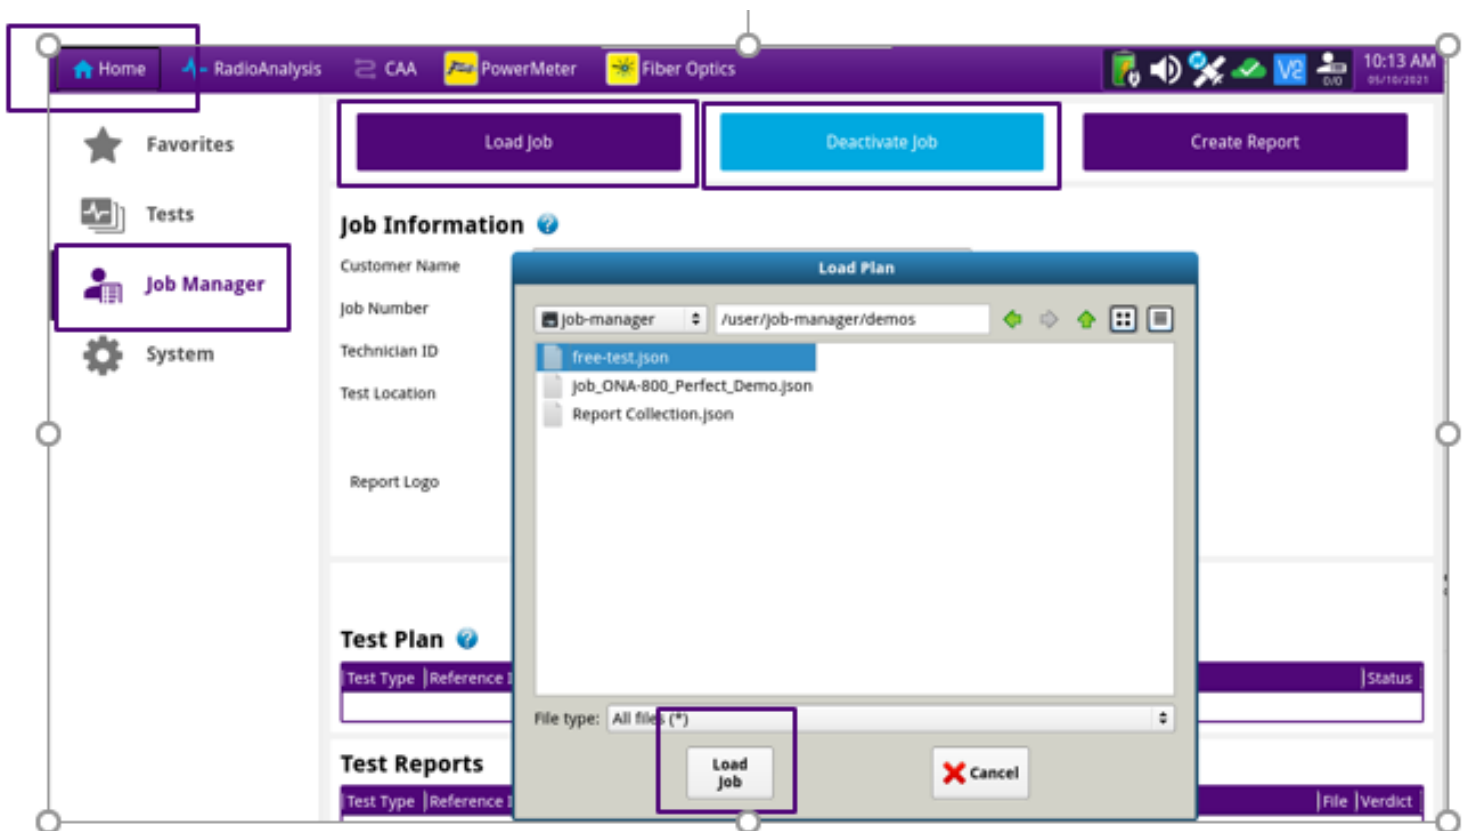

Figure 9: Opening a Job
4. Click on Activate Job (It will turn to Deactivate Job as shown in *Figure 9*).